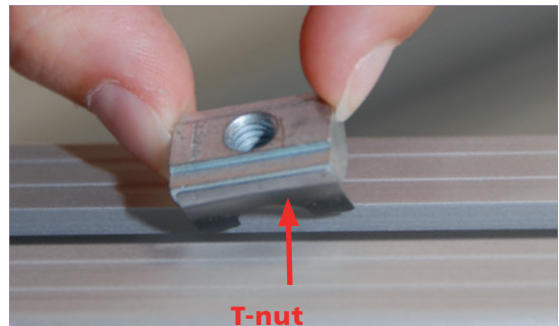

Abb. 3.2-7
**Step 6** In order to attach the profile angles **A2e**, you will need sixteen (16) fillister head screws with flange **M6x14** (2 per angle) and sixteen (16) T-nuts **M6**. Measure the long frame profile **A2c** which you have just mounted to the shield. There are 930 mm | 36.61 inch from to inner edge of the side supports to the middle of the screws the profile angles will be screwed on with. Now place two (2) T-nuts in the lateral lead channel of the long frame profile (the shield just clicked into the lead channel at the other side of the frame profile). Insert the T-nuts by half-twisting them into the lead channels with the spring ahead and align them appropriately (**fig. 3.2-7**).